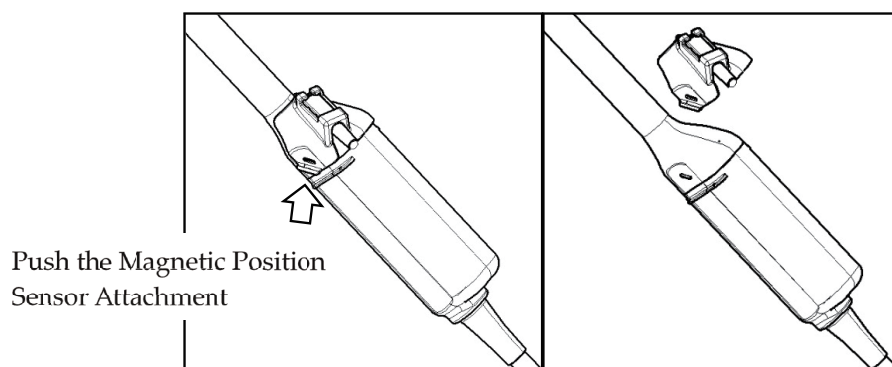

Figure 8 How to release Magnetic Position Sensor Attachment
- (1) Release the magnetic position sensor attachment from the probe as shown in Figure 8.